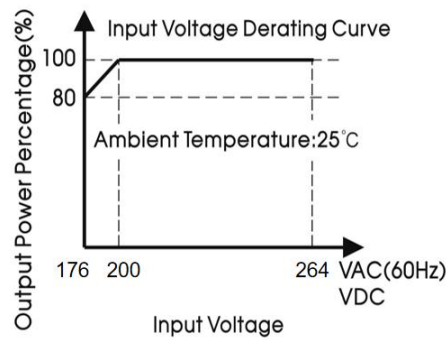

Fig. 3 EN600 Input Voltage Derating Curve
**4.2 Voltage & Load Range:** The input voltage and applied load must be within the range shown in the **"Input Voltage Derating Curve"**. **Low voltage** can cause poor startup, overheating under load, and failure. **High voltage** causes excessive electrical stress and failure. Fig. 3 shows the EN600 "Input Voltage Derating Curve".